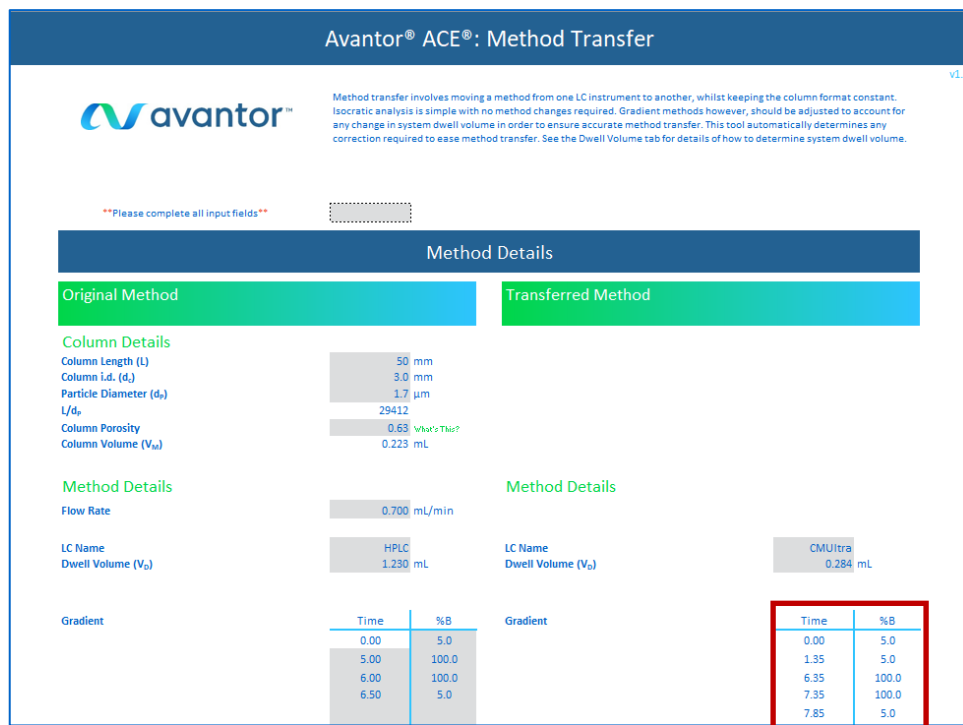

Figure 4: Screenshot for the transfer of the separation shown in Figure 3. The corrected gradient is highlighted in red.
Translator was then used to correct the gradient table for the change in dwell volume, enabling the original separation to be successfully reproduced (C). To determine the correction required, the user simply inputs the original method and column details, along with the dwell volumes of both systems; any adjustments to the gradient table are automatically generated (Figure 4). In this case, a 1.35 minute pre-gradient hold is added to the gradient table and all successive gradient time points are automatically adjusted.